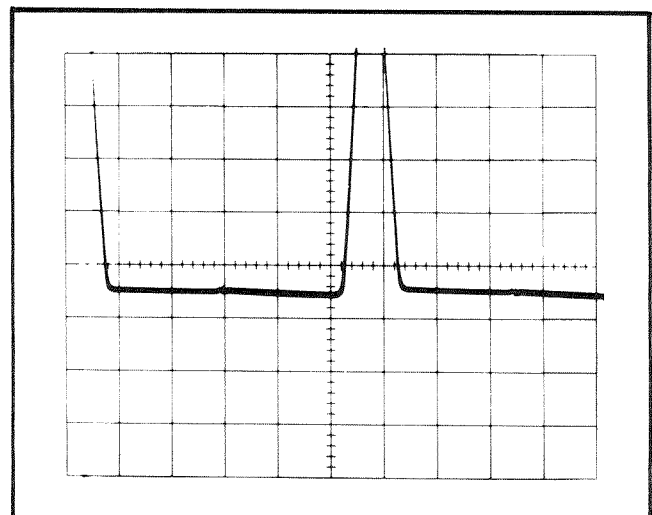

Fig. 5-8. Test oscilloscope waveforms when Horizontal Amplifier Limit Centering is properly adjusted.
g. CHECK—The base line of both displayed waveforms should be at the same DC level within 0.2 division (see Fig. 5-8).